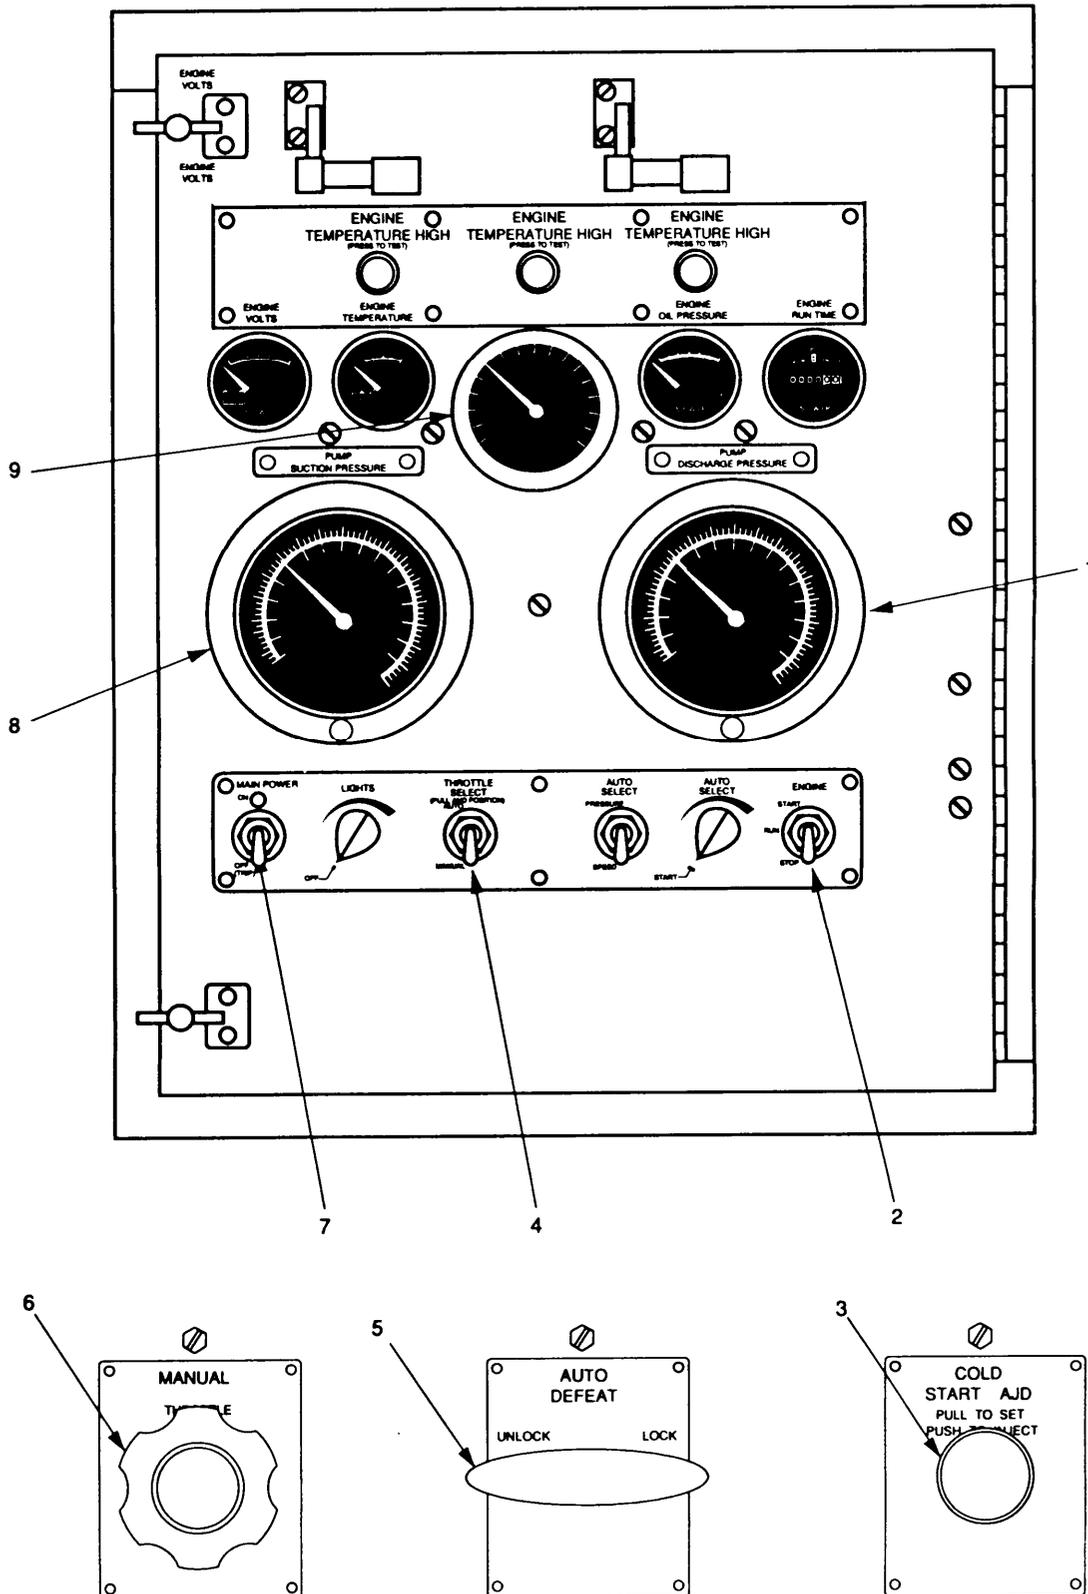

Figure 2-24. Model 609-C Controls Used for Manual Operations.
- c. Open control panel door and set MAIN POWER switch (Figure 2-24, 7) to ON position.
- d. Set THROTTLE SELECT switch (4) to MANUAL position.
- e. Unlock AUTO DEFEAT handle (5), pull out, and lock in place to prevent automatic operation.